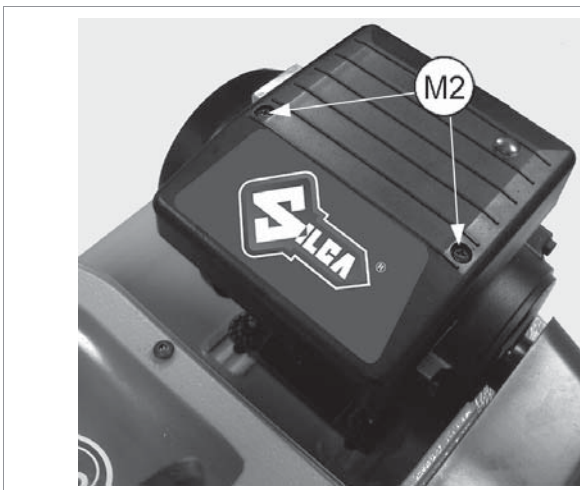

Fig. 59
- 1) Loosen the 2 screws (M2) and remove the motor cover (Fig. 59).
- 3) Remove the switch (K) making pressure on the tabs with a screwdriver.
- 2) Detach the connectors (Z) paying special attention to their position.
- 3) Remove the condenser (Y).